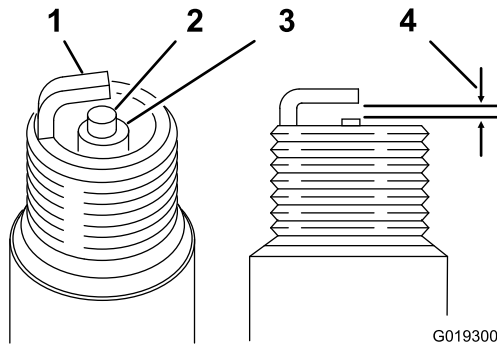

Figure 46
1. Look at the center of the spark plug (Figure 46). If you see light brown or gray on the insulator, the engine is operating properly.
2. Use a gapping tool for spark plugs or a feeler gauge to measure the gap between the side electrode and center electrode (Figure 46).